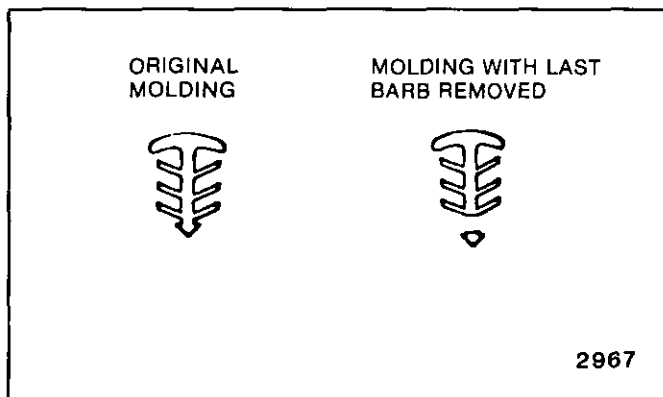

Fig. 2 - Removing Reveal Molding Barb
#### →← Install or Connect (Figs. 2, 3, 4)
1. To reuse original reveal molding, trim off barb and prefit in cavity (Fig. 2).